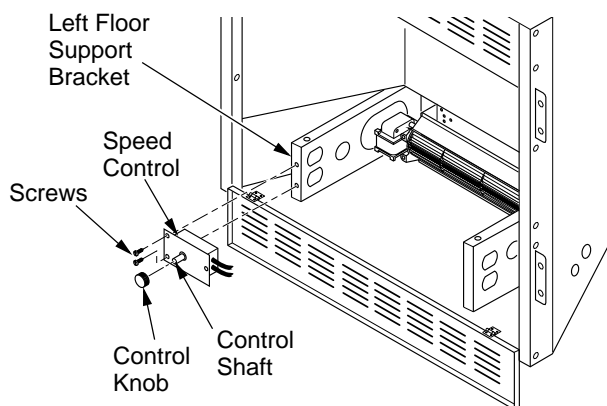

Figure 15 - Attaching Speed Control to Firebox
7. Mount the speed control on the front leg of the left floor support bracket using 2 screws provided (see Figure 15).